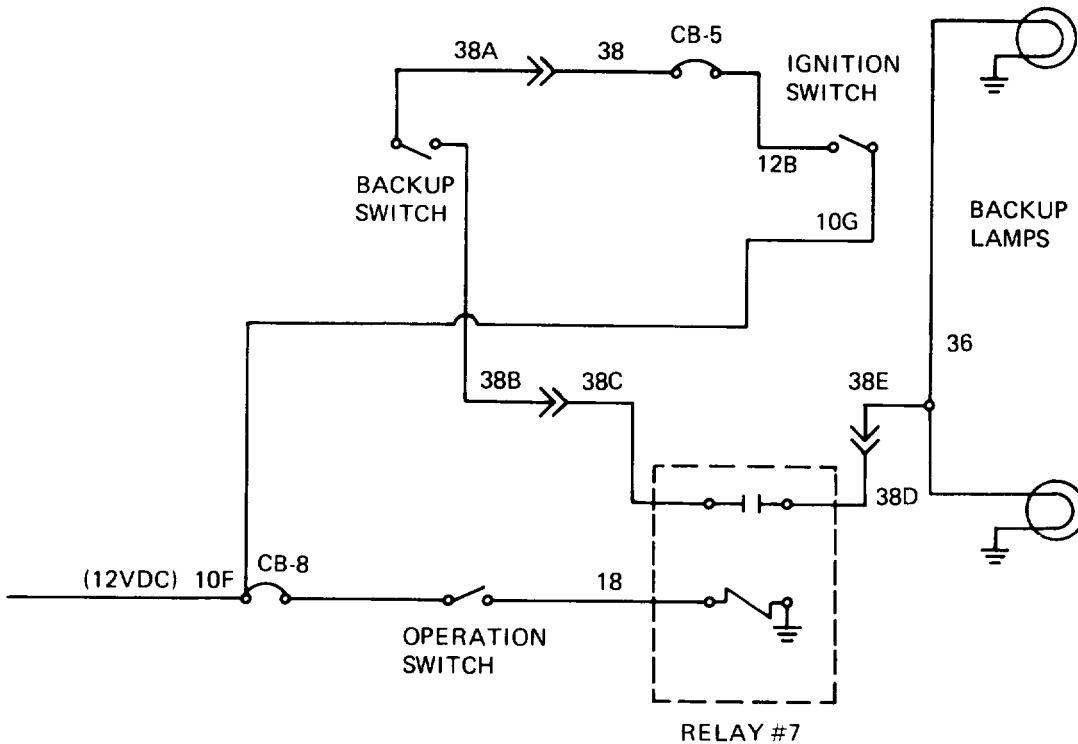

Figure 5-36. Backup Lamp Circuit.
a. *Description (fig. 5-36).* When the ratio selector is placed in either reverse speed, the air-actuated backup switch (located on the transmission) will close and light up the backup lamps if the ENGINE RUN switch is turned on and the blackout switch is in the normal position. (Reference Table 5-12.)